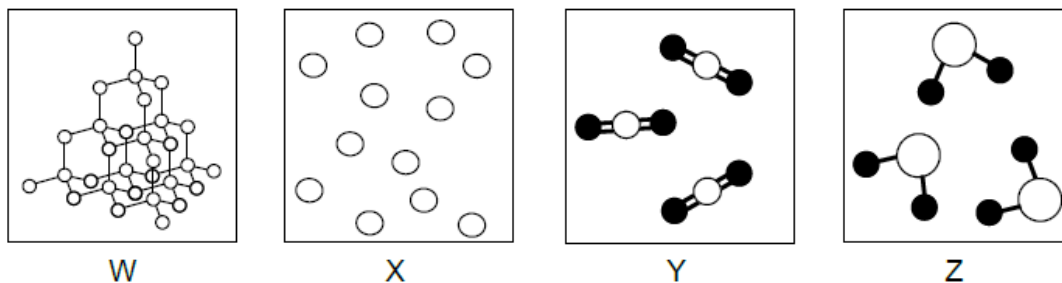

Fig. 1.1
- 1 Fig 1.1 shows the arrangement of atoms in four substances, W, X, Y and Z.